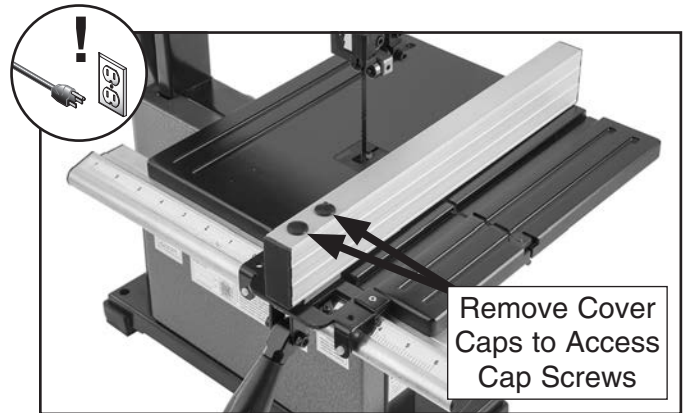

Figure 31. Location of fence adjustment cap screws.
4. Remove cover caps and loosen (2) fence adjustment cap screws (see **Figure 31**), adjust fence parallel with miter slot, then re-tighten cap screws to secure setting. Re-install cover caps.